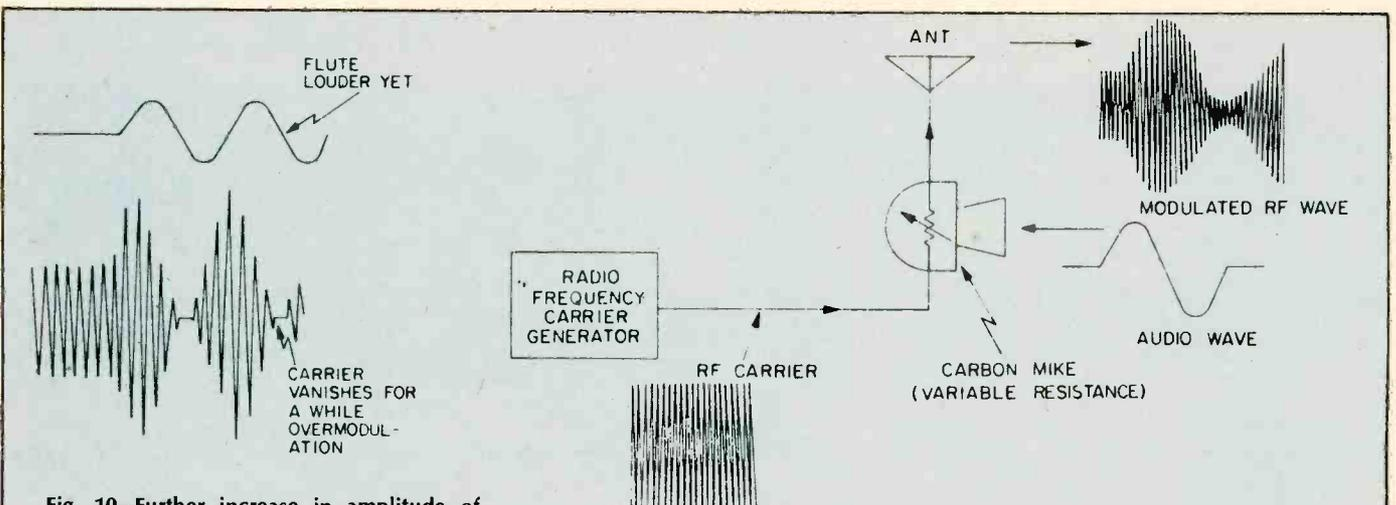
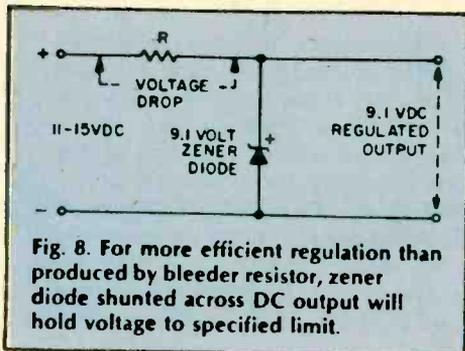

Fig. 10—Further increase in amplitude of audio signal causes overmodulation.
Fig. 8. For more efficient regulation than produced by bleeder resistor, zener diode shunted across DC output will hold voltage to specified limit.
example, if the flutist were to play more softly, the result will be as in Figure 8. If he plays more loudly, Figure 9 is the result. You will note that in Fig. 9 the amplitude modulation is so intense that, at one point, the carrier's amplitude goes to zero for an instant. This is called 100% modulation, and represents the loudest sound AM can handle. If the flutist plays even *more* loudly, the result is as shown in Fig. 10. As the figure shows, the envelope is no longer a faithful replica of the original audio waveform, so the listener will receive a distorted sound. This condition is called *overmodulation*, and is undesirable.
A zener diode can compensate for the shift, as shown in Fig. 8. At first glance it appears as an ordinary diode connected backward. Since the cathode (upper) terminal is connected to the positive side of the supply, there's a "reverse bias" condition. A zener diode, however, "breaks down" (or "avalanches") whenever its rated (zener) voltage is exceeded. In our example, the zener is a 9.1-volt unit, so the diode conducts current as the supply voltage shifts from 11 to 15 VDC.
Fig. 8. Shaded portion of triangle indicates unknown quantity in the formula. Visible factors appear in their proper mathematical relation. Just fill in the known values and go on with multiplication or division.
A handy way to remember Ohm's law is by means of the triangle shown in Fig. 8. Simply cover the quantity (voltage, current, or resistance) that you want to determine, and read the correct relationship of the remaining two quantities. For example, if you want to now the correct current (I), put your finger over I and read E/R. Covering E or R will yield I × R or E/I, respectively.